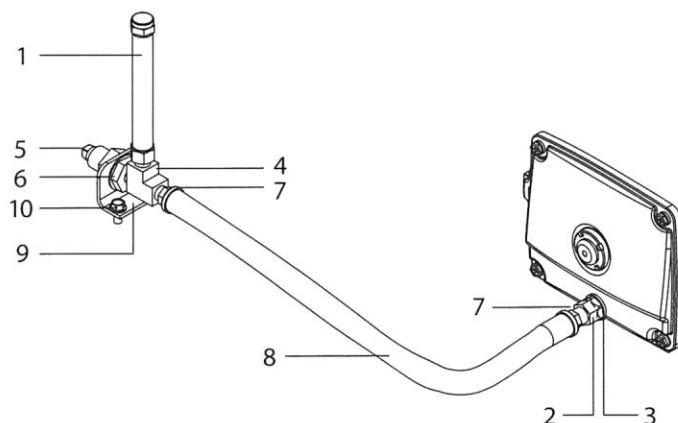
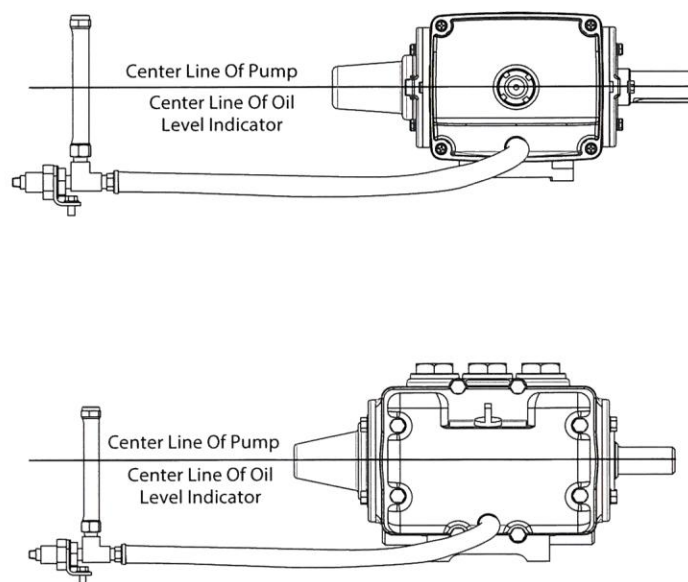

Figure 2
Figure 3
3. Install 1/4" BSP fitting (Figure 2, item 2) with o-ring (3) into rear cover of pump.
4. Attach hose barbs (7) to each end of 3/8" hose (8).
5. Thread one end of hose (8) into fitting (2) of rear cover.
6. On opposite end of hose (8), thread in tee (4). Position tee (4) with female threads up.
7. Remove nut from 1/4" union fitting (6).
8. Thread in hose (8) with tee (4) to large end of union fitting (6).
9. Mount bracket (9) with screws (10) into desired position such that the centerline of the sight area of the crankcase oil level indicator (1) is at the same center line of the pump (See Figure 3)
10. Install hose assembly through mounting bracket (9)
11. Reinstall nut onto threads of union fitting (6) and tighten.
12. Thread in square end plug (5) into open end of union fitting (6).
13. Thread in crankcase oil level indicator (1) into open port of vertical leg of tee (4).